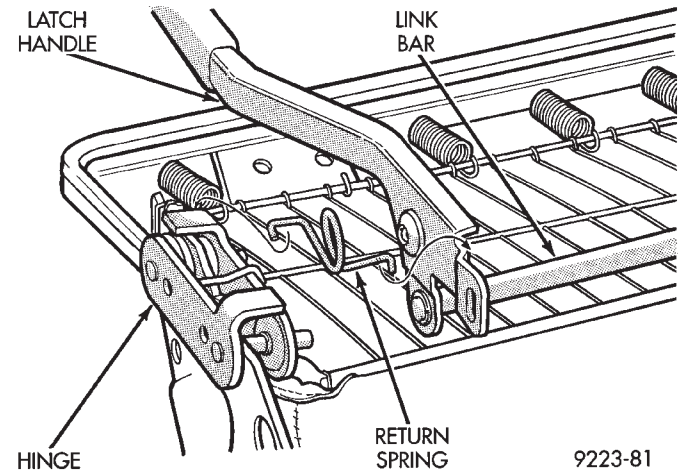

Fig. 40 Latch Handle, Link Bar and Return Spring
- (6) Loosen bolts holding right seat back hinge to cushion frame (Fig. 40).
- (7) Separate latch handle and link bar from cushion frame.